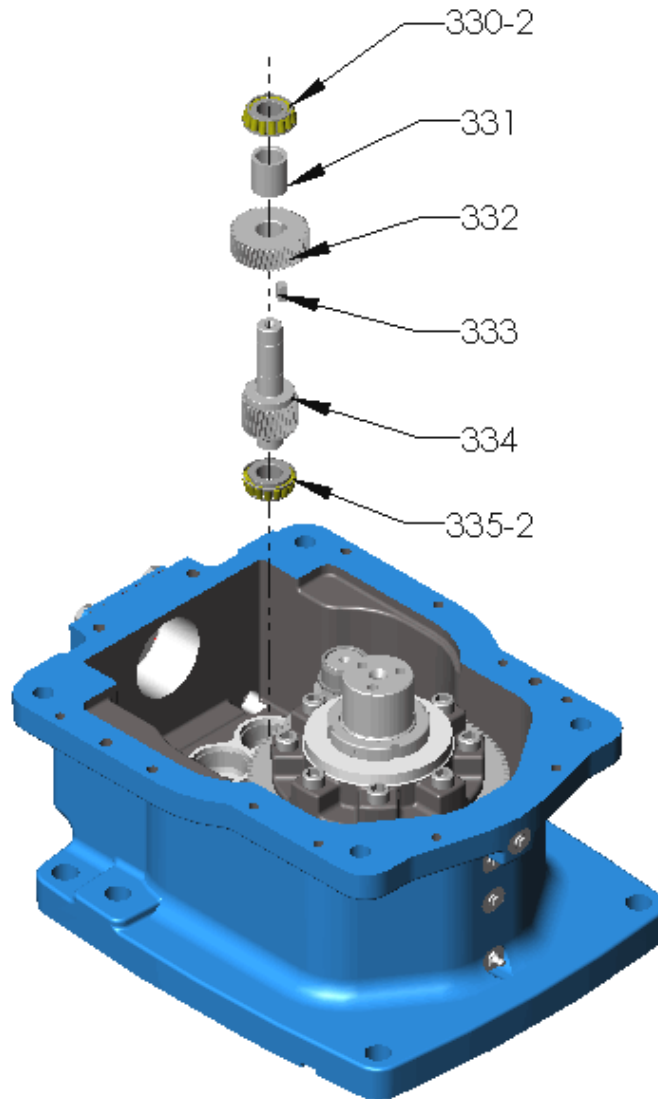

Figure 18 – 1st Intermediate shaft
- L. 1st intermediate shaft assembly (refer Figure 18):
- M. Install 1st intermediate shaft [334] in the bearing cup [335-1] in the case bottom (refer Figure 18).